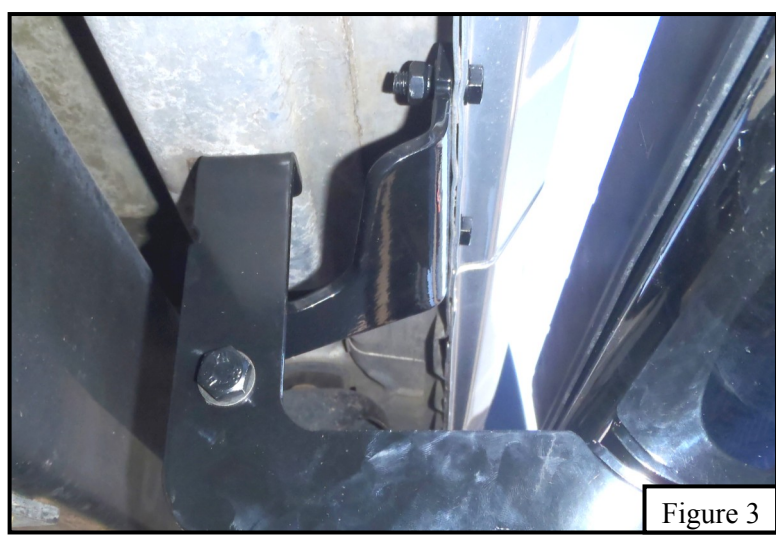

Figure 3
6. Repeat **Steps 3-5** for the driver center and rear mounting bracket and support bracket. See **Figure 3**. *Do not fully tighten at this time.*